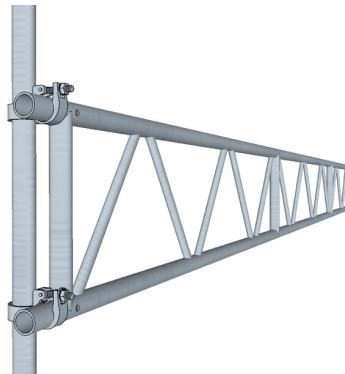

Figure 1 – Beam Support Detail
- 6) Permissible shear assumes beam is supported on top and bottom chords – see Figure 1